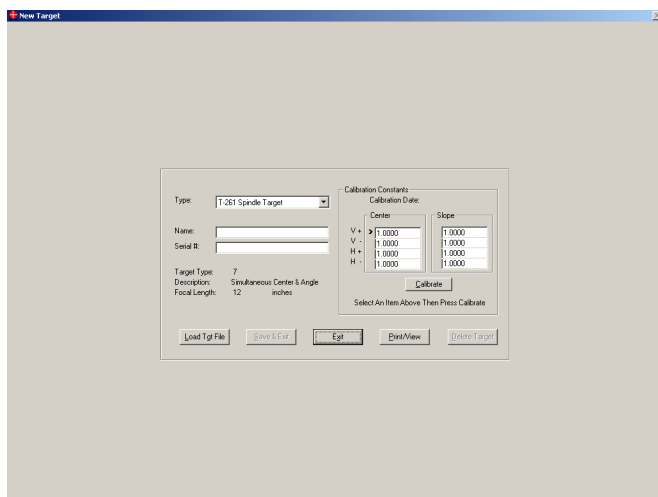

Figure 24 – New Target Screen
1. Click **New Target** button (Alt-N) on the Target Setup screen to display the New Target screen (see Figure 24).